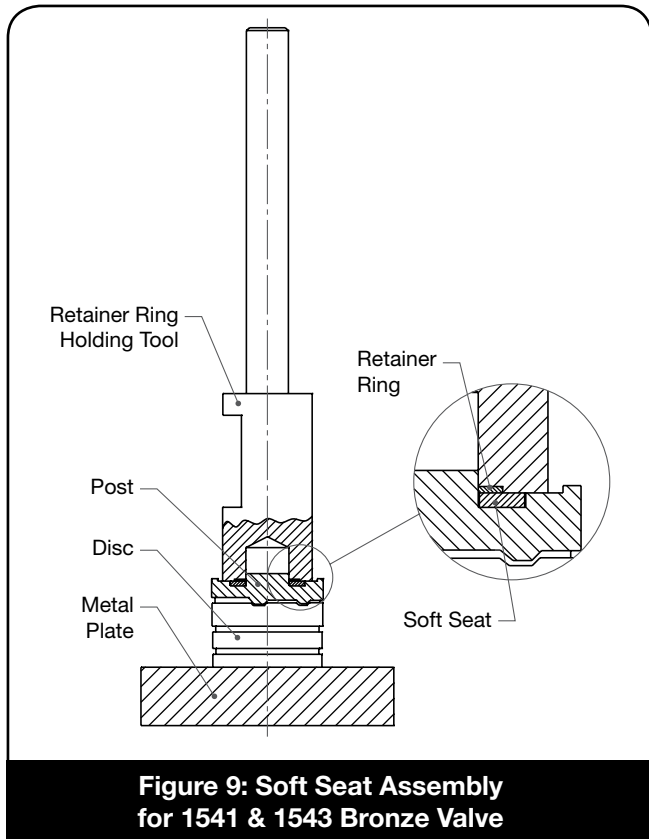

Figure 9: Soft Seat Assembly for 1541 & 1543 Bronze Valve
- a. Clean disc, put it on a metallic plate (see Figure 9). Disc surface having spindle pocket will lie on the metal plate.
(defective part should be rejected). Put Washer on the Disc (see Figure 9).
- c. Pick-up an appropriate Retaining Ring and tool assembly (see Table 5). Place Retaining Ring on the Disc. Subsequently put tool assembly in the mechanical press (not shown in Figure 9). Provide slight force to position Retaining Ring over the post. After removing force and inspecting proper positioning of Retaining Ring, press the Retaining Ring again, hard enough, to move Retaining Ring down to hold the seat washer tightly. A properly assembled soft seat will be somewhat compressed by Retaining Ring.